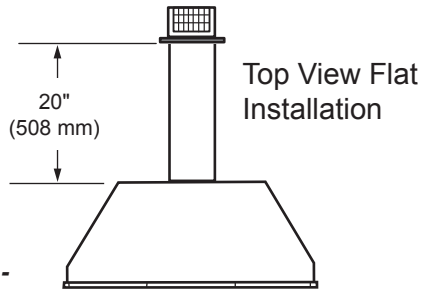

Figure 16 - Rear Vent Application, Maximum Horizontal Distance
- The maximum horizontal distance between the rear of the appliance and the outside face of the rear wall is 20" (508 m). *Figure 16*